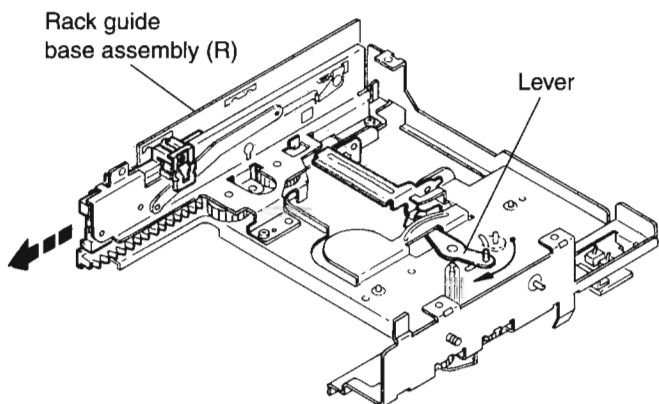

Fig.19
- Draw the racks of Rack guide base assemblies (L) and (R)(See Fig.19 and 20).
- Move the lever in the direction of the arrow (see Fig.19).